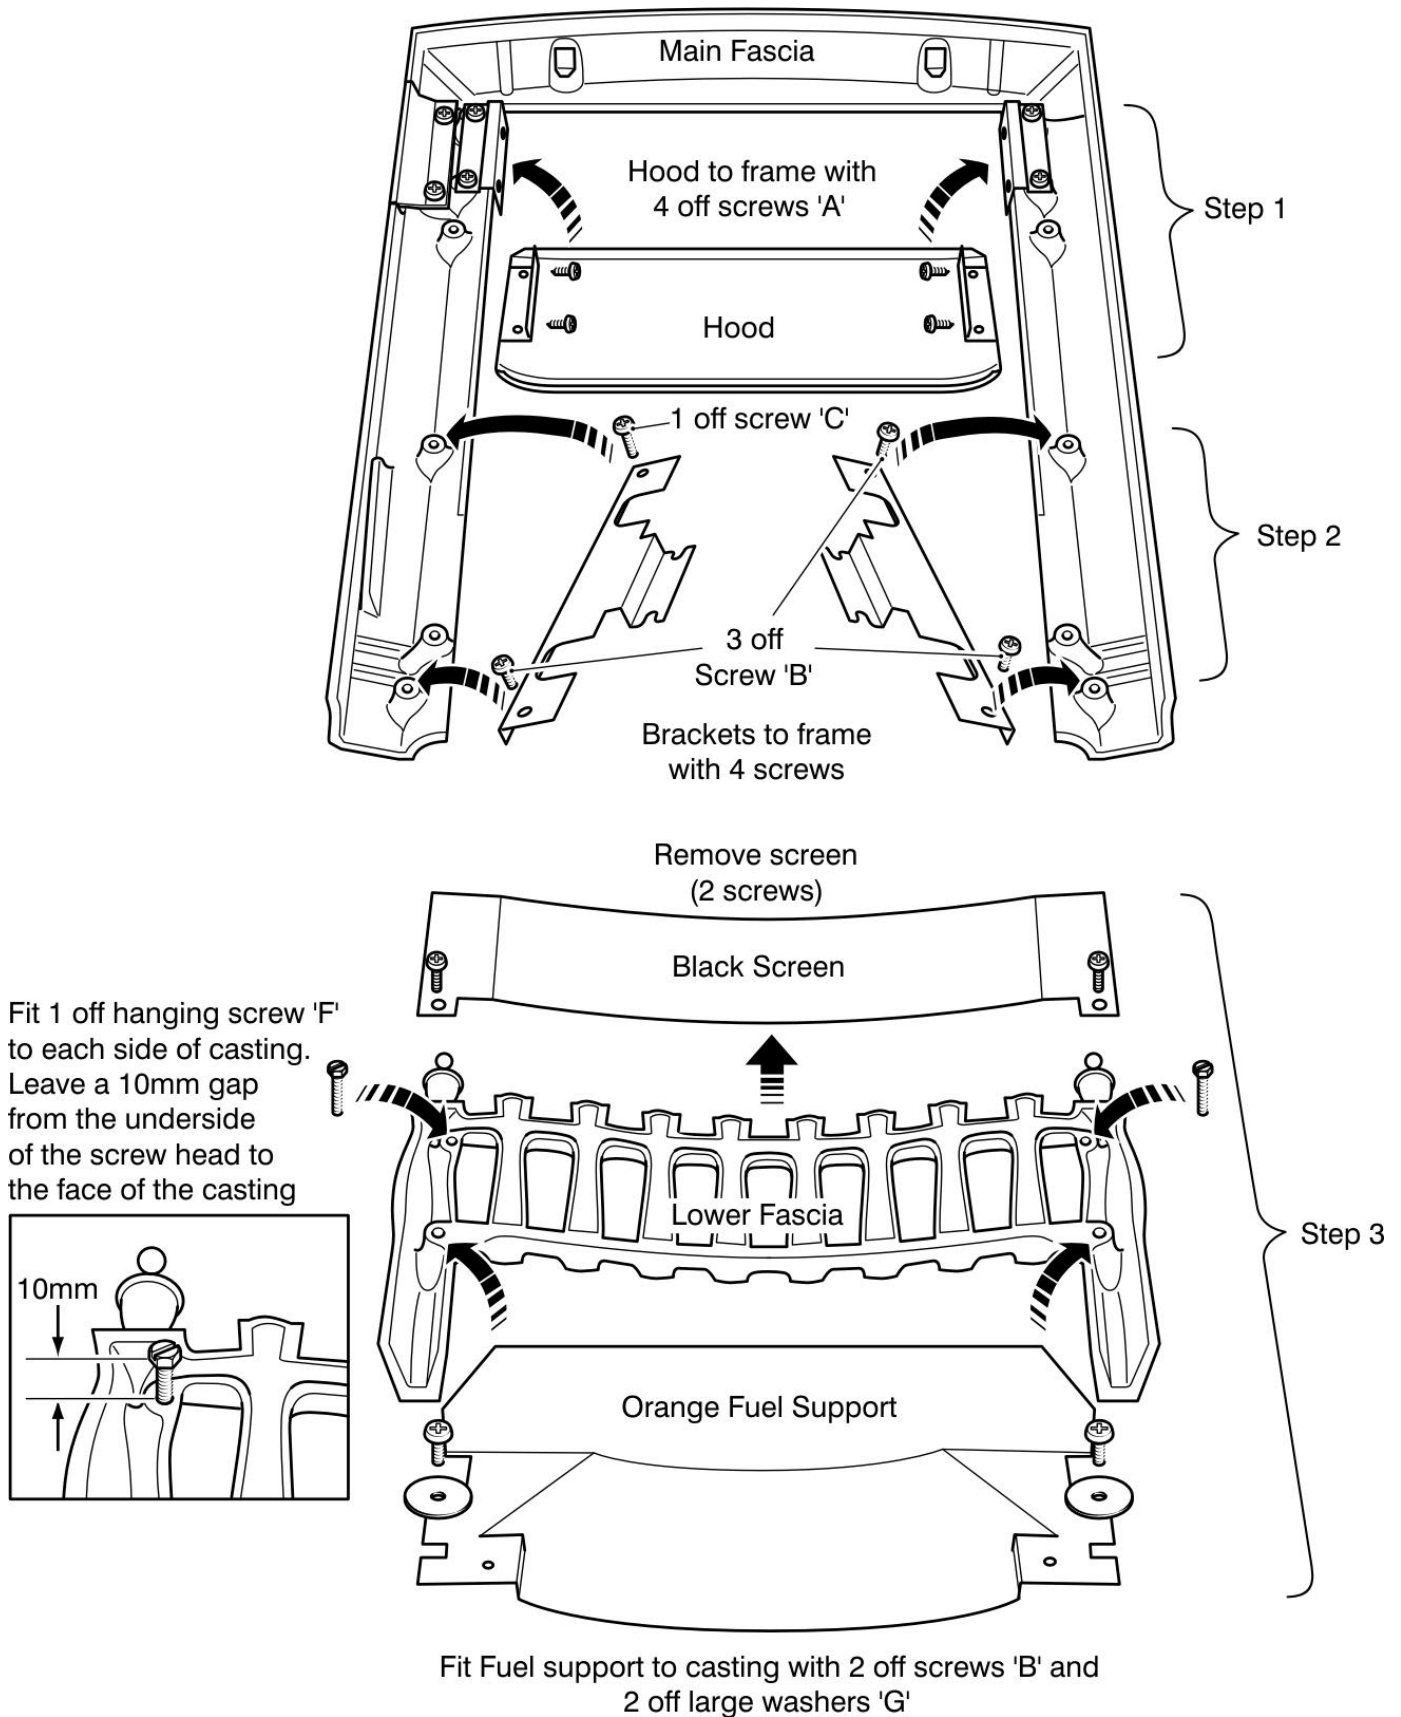

Figure 16.
Follow the steps below while referring to figure 16.
Locate the lower brackets onto the fascia and secure with 3 off screws 'B' and 1 off screw 'C' as in figure 16 - step 2. Ensure the brackets project downward towards the front face of the main fascia.
- 2.* Locate 2 off screws 'F' into the upper two holes in the rear of the lower fascia, leaving a gap of about 10mm from the underside of the screw head to the rear face of the casting (See figure 16 - step 3). The 10mm gap is to enable the lower fascia to be hung onto the main fascia.
- 3.* Place the orange fuel support onto the rear of lower fascia and secure it in place with 2 off screws 'B' and 2 off large washers 'G' (See figure 16 - step 3).